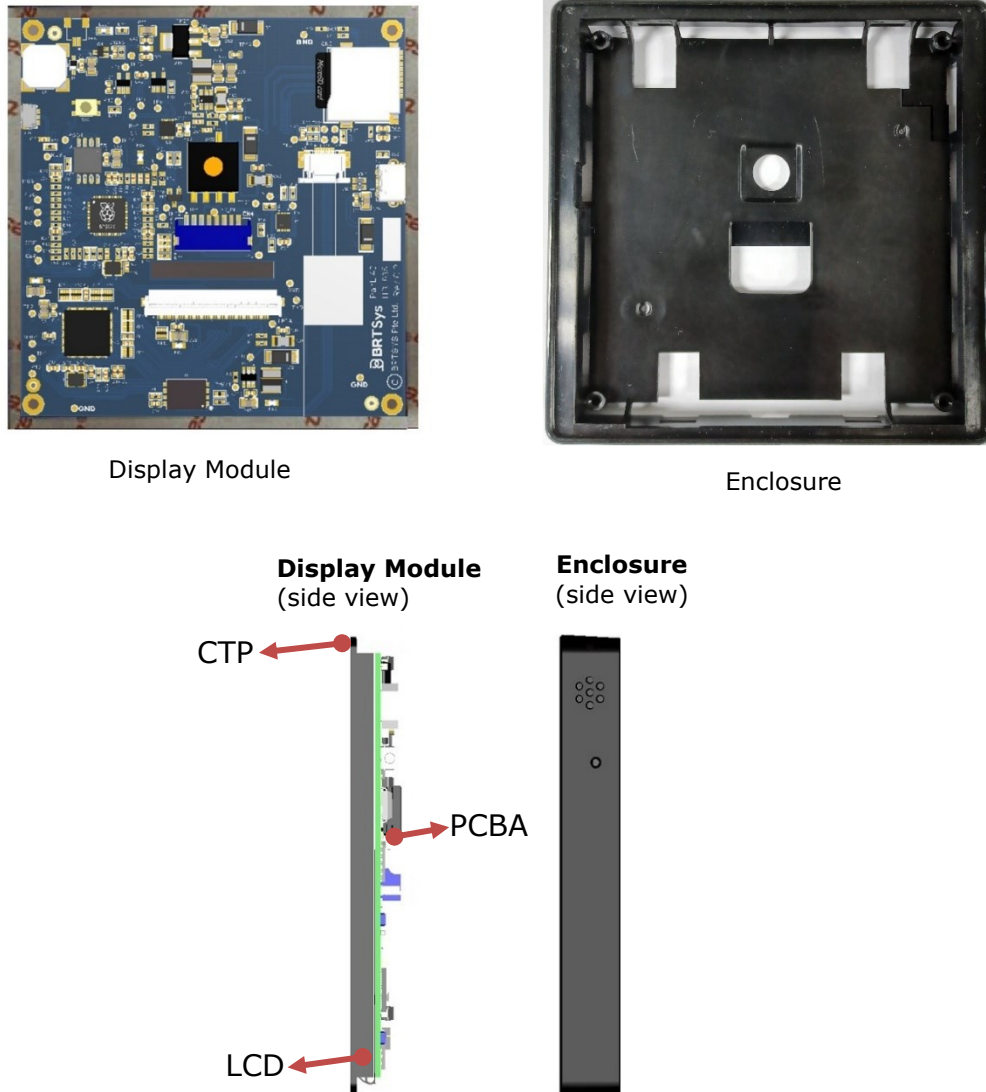

Figure 17 – Display Module and Assembly Structure
1. Refer to Figure 17 for an image of the parts.
Figure 17 shows IDP2040-40A display module parts and assembly structure, follow the steps below for module assembly.